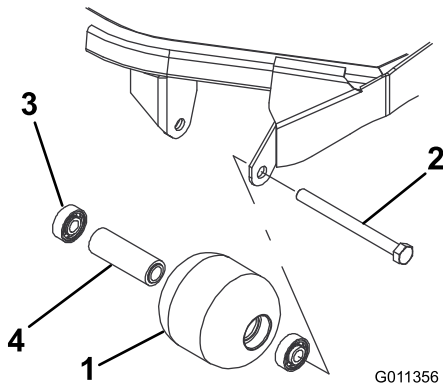

Figure 65
1. Remove the roller mounting bolt (Figure 65).
1. Press the first bearing into the roller housing (Figure 65). Press on the outer race only or equally on the inner and outer race.
2. Insert the spacer (Figure 65).
3. Press the second bearing into the roller housing (Figure 65) pressing equally on the inner and outer race until the inner race comes in contact with the spacer.
4. Inspect the roller housing, bearings, and bearing spacer for damage (Figure 65). Replace damaged components and assemble.